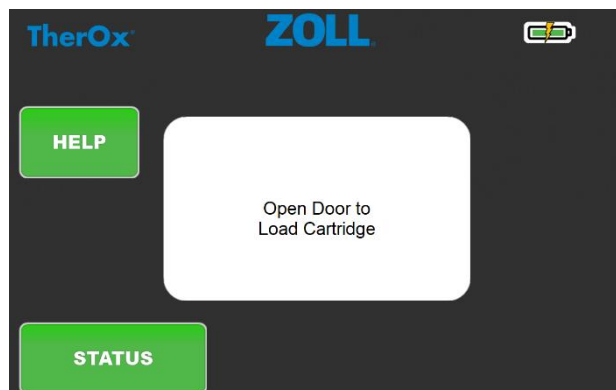

Figure 8. Screen Displays Prompt to Load Cartridge
3. Press the button identified as 'CONTINUE' on the display to continue to the next screen and begin the loading process. Once the "CONTINUE" button is pressed the screen shown in **Figure 8** appears: